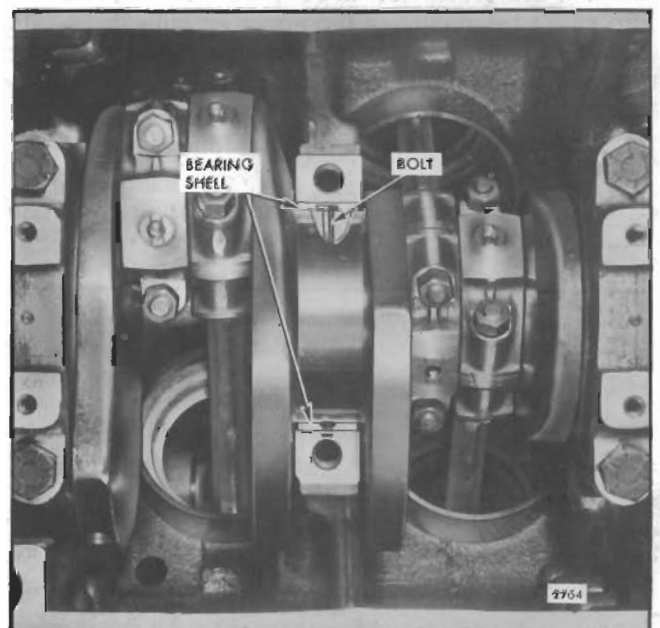

Fig. 3 - Removing Upper Main Bearing Shell (Except Rear Main)
a. To remove all except the rear main bearing shell, insert a 5/16" x 1" bolt with a 1/2" diameter and a 1/16" thick head (made from a standard bolt) into the crankshaft journal oil hole. Then revolve the shaft to the right (clockwise) and roll the bearing shell out of position as shown in Fig. 3. The head of the bolt must not extend beyond the outside diameter of the bearing shell.